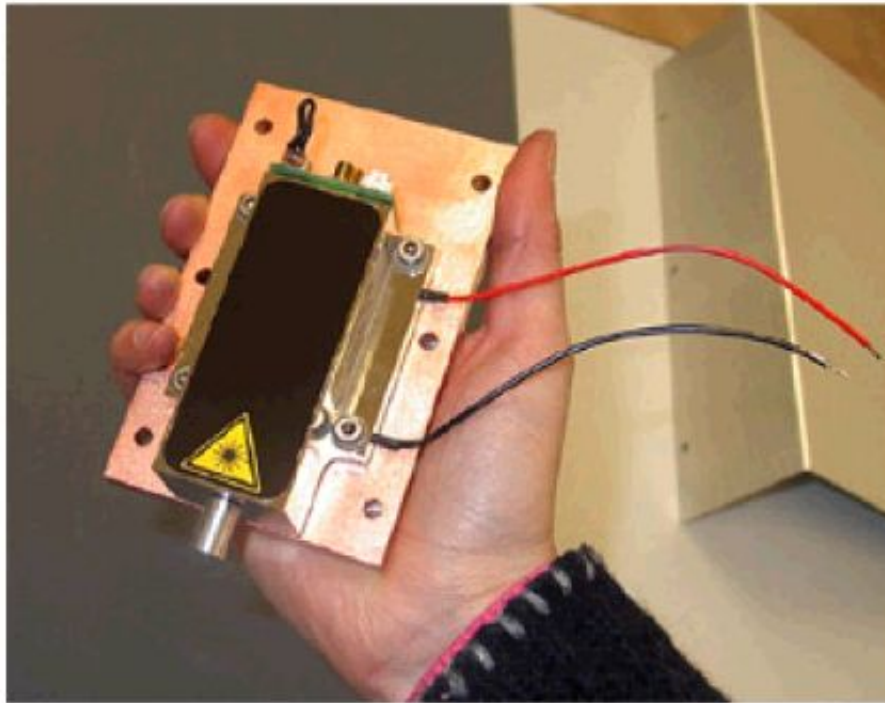

fig. 15
12) Put a new diode laser in place of the old one [fig.15]